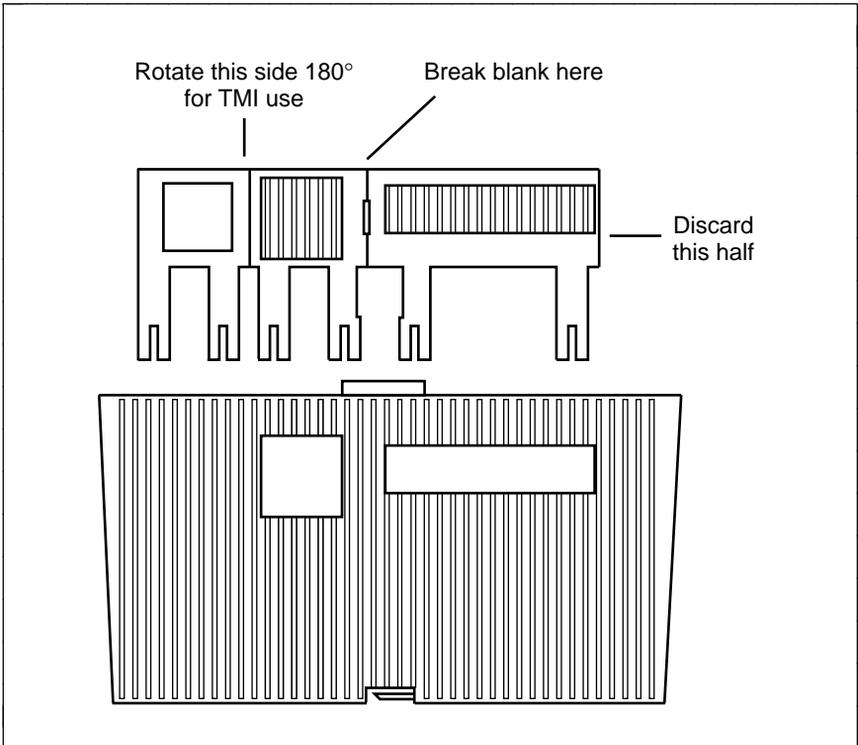

FIGURE 8 Separating the Connector Hole Blanks
- 2 With your thumbs, push, from the outside of the stand, on the two connector hole blanks at the same time. As the blanks loosen, push them back and then up. The blanks that you remove should look like the ones in **Figure 8**.
- 3 Break the blanks in half. **Figure 8** shows the point at which the blanks should be separated. Discard the RS232 portion of the blank which covered the RS232 connector hole.
- If you have installed a TMI board, rotate the blank 180 degrees so that the connector hole cover is now on the left and the part of the blank with the square connector opening is now on the right. See **Figure 8** for a drawing of the 8-pin connector blank. Place the blank back in the hole so that there is an opening through which the 8-pin round connector will protrude.